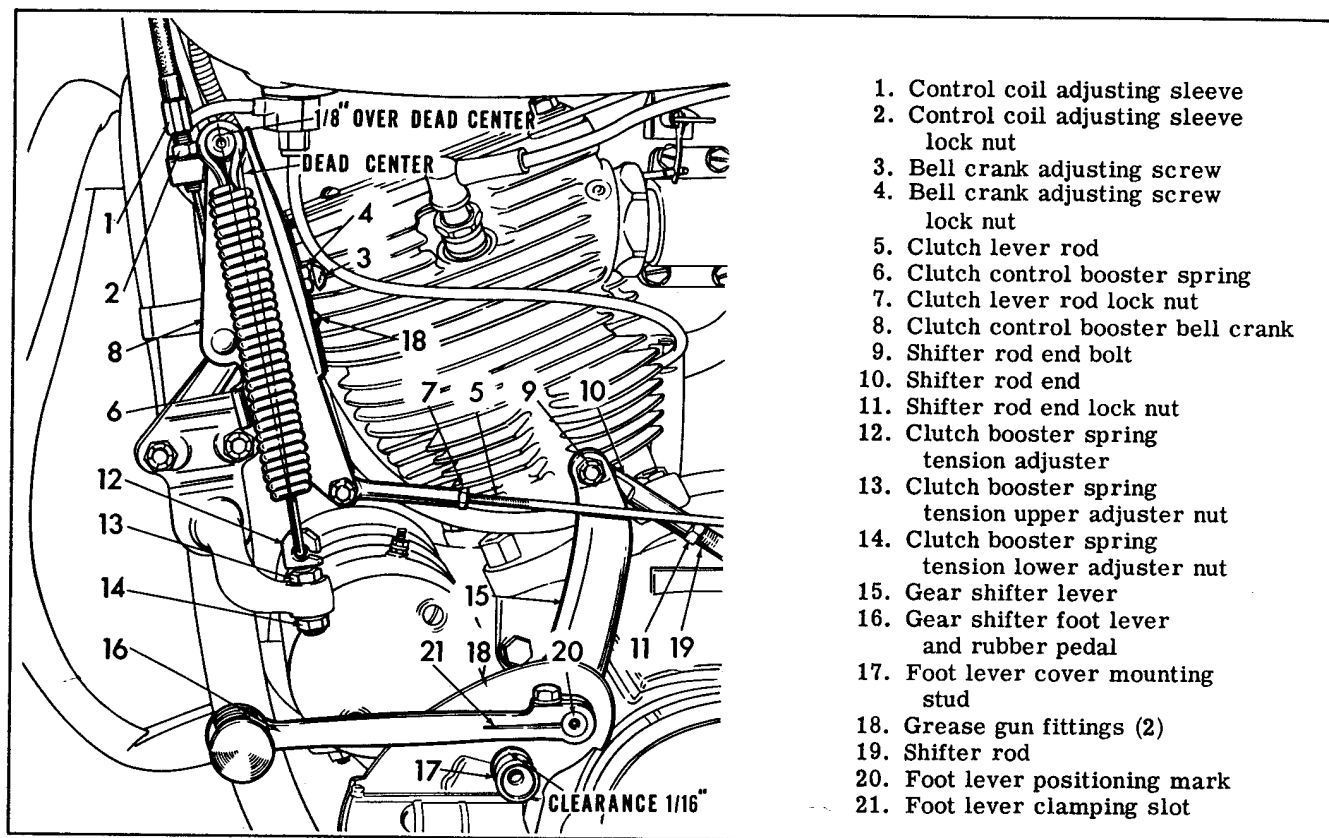

Figure 4B-2. Adjusting Hand Clutch Booster
If the clutch slips after adjusting clutch controls, increase spring tension on the three clutch spring guide stud nuts (6, Fig. 4B-1). Tighten all three nuts one-half turn at a time until clutch holds. Test after each half turn by cranking the engine. Usually a clutch that holds without noticeable slipping when cranking the engine will hold under normal road conditions. Do not increase spring tension any more than is necessary to make clutch hold.
A new clutch is assembled so the distance from inner edge of spring collar (2, Fig. 4B-4) to the surface of the outer disc (9) is exactly $\frac{31}{32}$ in. If springs are compressed so this distance is $\frac{7}{8}$ in. or less, the clutch probably cannot be fully disengaged.